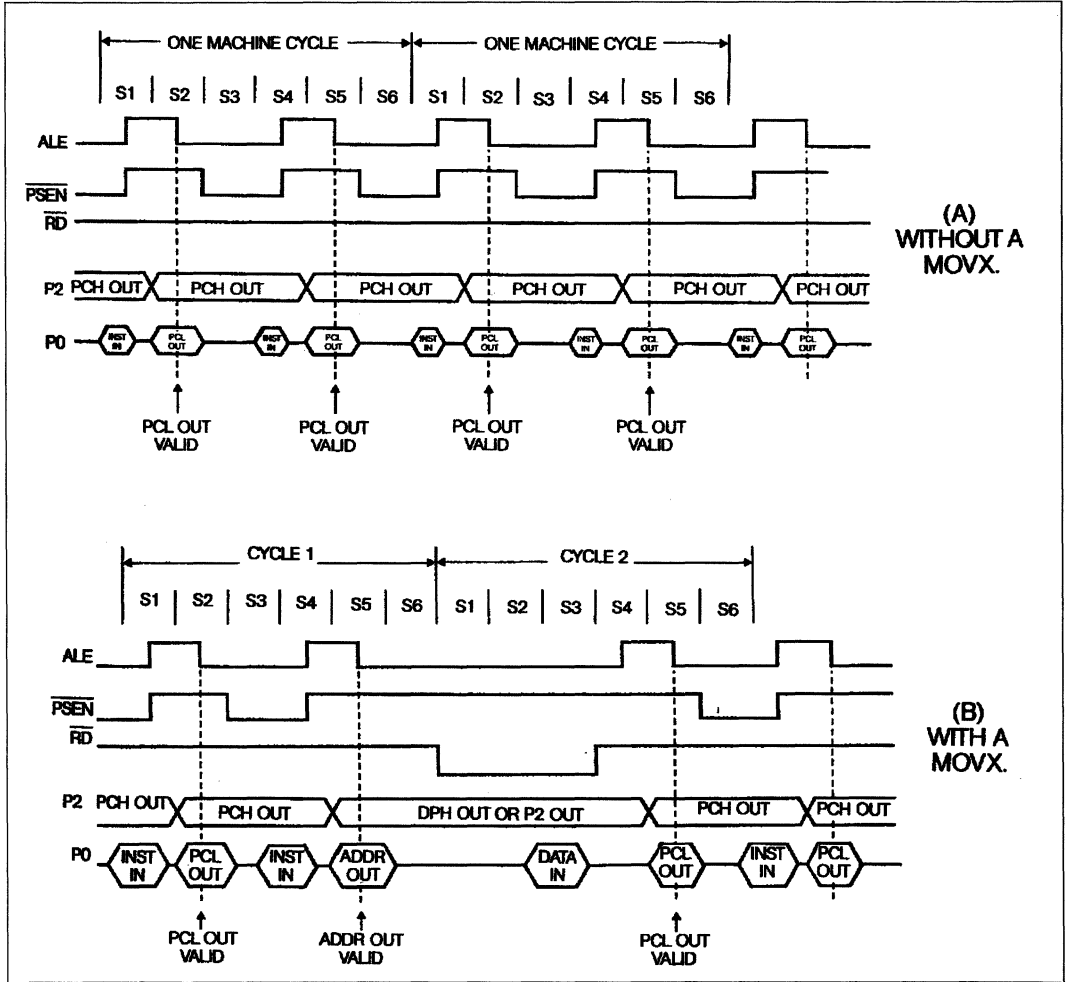

Figure 16 : Bus Cycles in MHS C51 Devices Executing from External Program Memory.
Figure 16 shows the signals and timing involved in program fetches when the Program Memory is external. If Program Memory is external, then, the Program Memory read strobe PSEN is normally activated twice per machine cycle, as shown in Figure 16 (A).
If an access to external Data Memory occurs, as shown in Figure 16 (B), two PSENs are skipped, because the address and data bus are being used for the Data Memory access.
Note that a Data Memory bus cycle takes twice as much time as a Program Memory bus cycle. Figure 16 shows the relative timing of the addresses being emitted at ports 0 and 2, and of ALE and PSEN. ALE is used to latch the low address byte from P0 into the address latch.